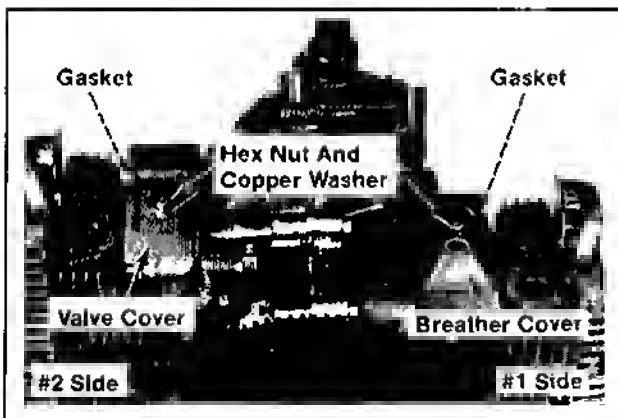

Figure 11-42. Installing Breather And Valve Cover.
2. Install the gasket, breather cover, copper washer, and hex. nut. Refer to Figure 11-42.
1. Install the gasket, valve cover, copper washer, and hex. nut. Refer to Figure 11-42.